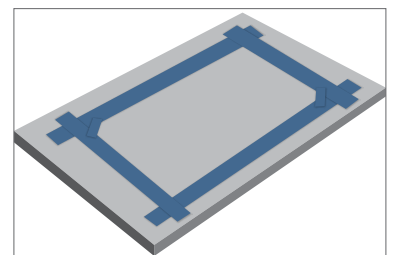

Fig. 5
- Apply masking or painters tape to benchtop where the appliance is to be positioned. (see Fig. 5)